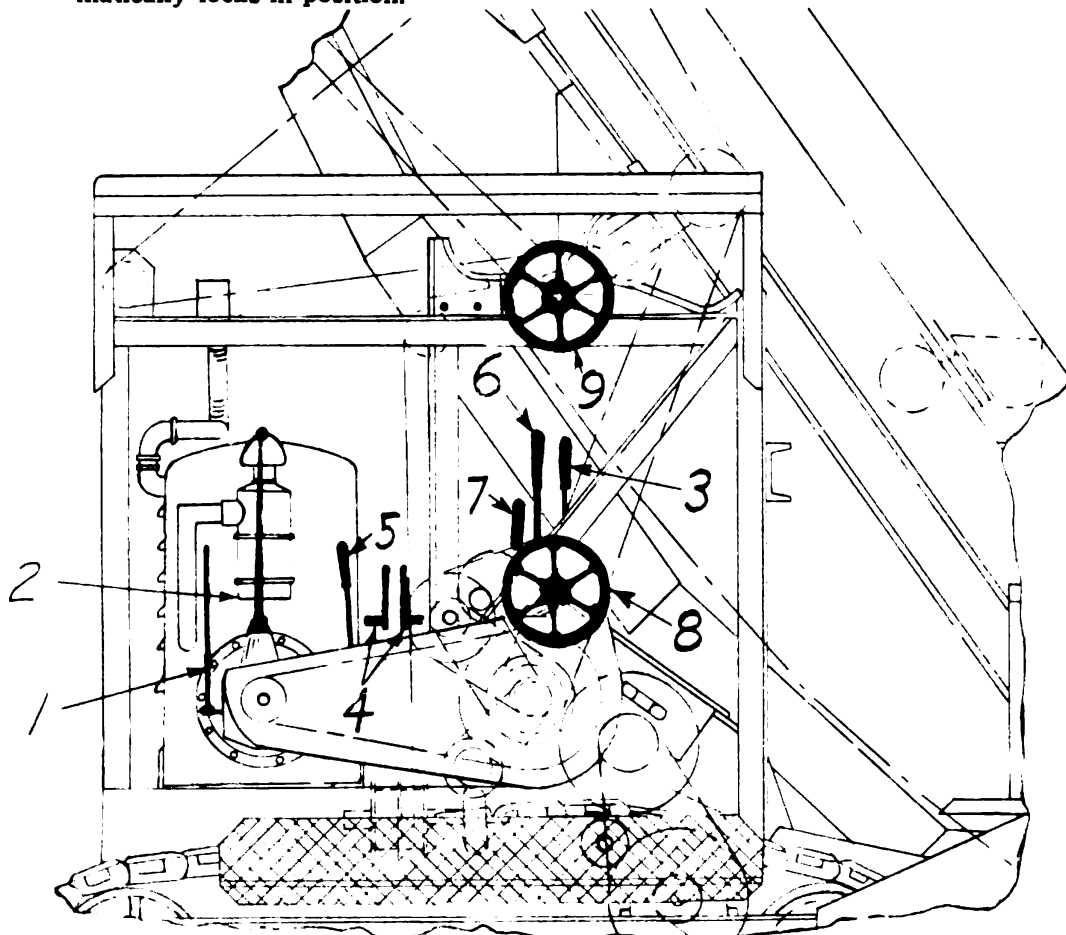

Figure 86. Hoist, spout and other controls.
(5) Figure 86. The bucket line is engaged by means of a jaw clutch. Push the lever forward to engage and pull the lever back to disengage. When the lever is disengaged it should be behind the stop to prevent engaging when only traction is used. **WARNING:** Do not engage the bucket line unless the master clutch is disengaged. Always disengage the bucket line clutch lever before operating the loader in reverse. Failure to do so may result in irreparable damage to the jaws.
(8) Figure 86. The hoist can be lowered by turning the hoist handwheel clockwise. The elevator must be raised by power. This handwheel is used for maintaining the proper grade. The operator can save time by using this handwheel because, when the bucket line is operating, he does not have to stop the machine and shift into reverse when the spirals need lowering a few inches.
(9) Figure 86. This handwheel is used for controlling the swivel spout. The control is spring locked. Pushing in on the handwheel releases the lock. Holding in on the handwheel permits the turning of the spout in either direction within the 180° range. When the handwheel is released the swivel spout automatically locks in position.